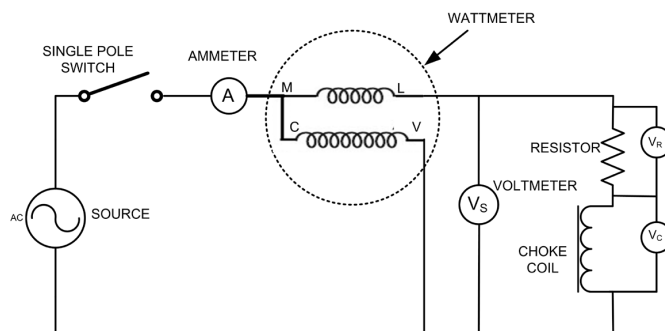

Fig. P3.1: Circuit diagram for measurement of voltage, current and power.
1. Connect the circuit as shown in Fig. P3.1